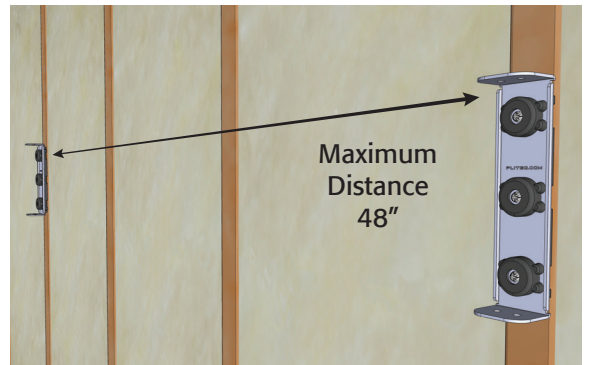

Figure 1
3. Attach **GenieClip Mount** to structure on either side of the mounting locations 1.2 m (48 inch) o.c. max using appropriate fasteners as listed below (**Fig.1**).